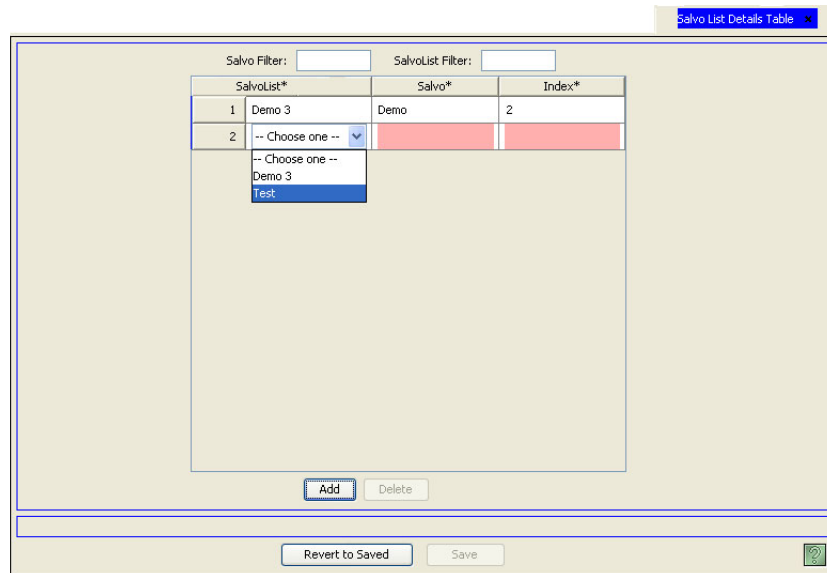

Figure 15-15. Salvo List Details Table
- 2 From the Navigation area, select the 'Views' pane and then 'Salvo List Details'. The 'Salvo List Details' table appears, as shown in Figure 15-15.